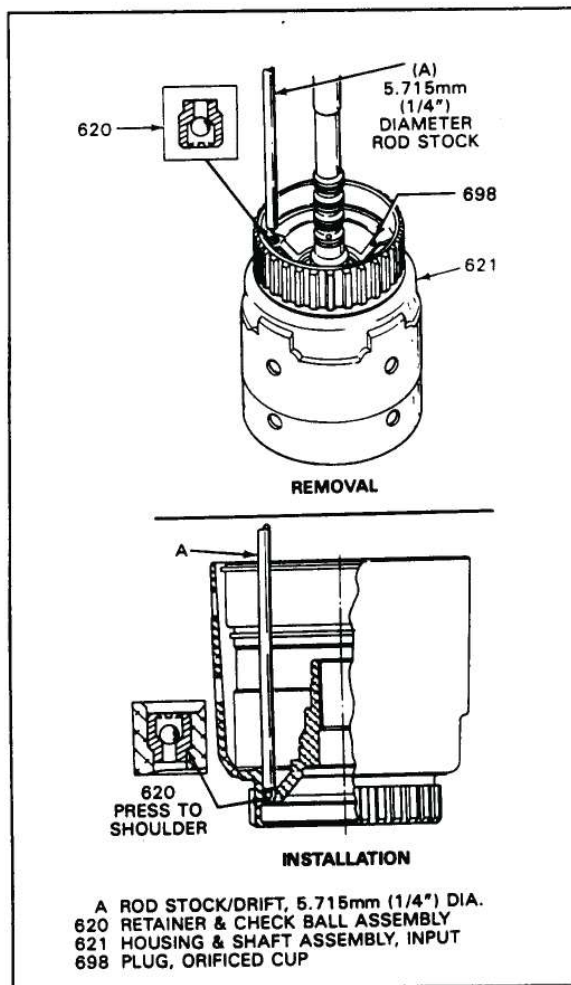

Figure 114
2. If replacement is necessary, use a 1/4\" drift punch and hammer to remove and replace the capsule assembly, as shown in Figure 114.
3. OEM part number for the input housing ball capsule is 8654438 (Figure 114).